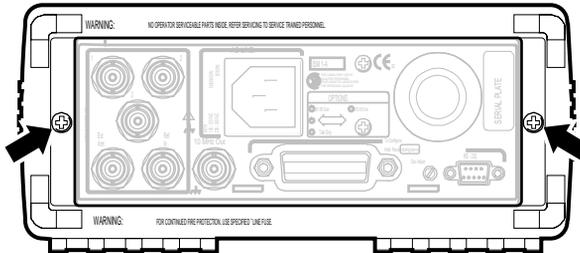

Figure 3-1. Rear Bezel Removal
- 2 To remove the rear bezel, loosen the captive screws on the sides as shown in Figure 3-1 using the TORX 15 screwdriver.**